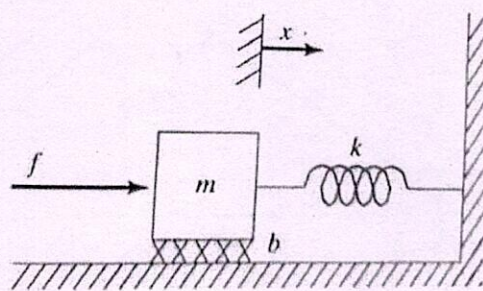

Fig. 3
- 6 a) The parameters of the system as shown in fig.3, are $m = 2$, $b = 2$ and $k = 2$. For a value of $k_p = 16$, the system becomes critically damped. Find the closed-loop stiffness and the corresponding k_v 5